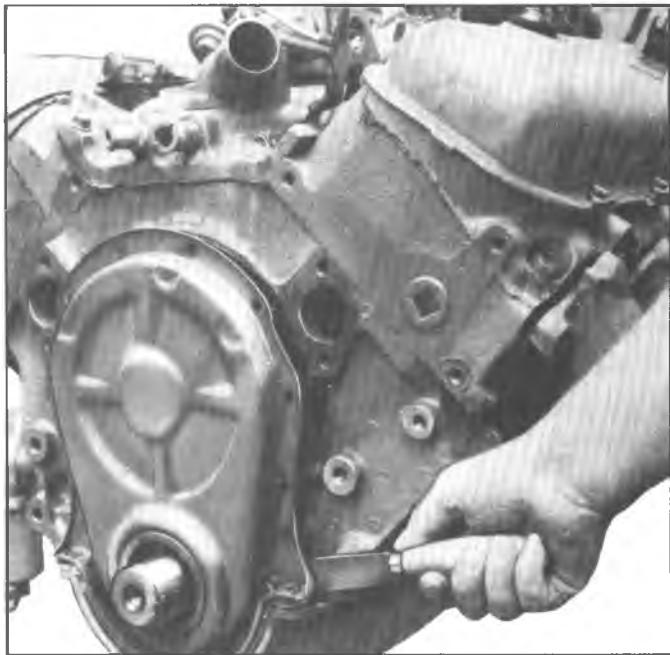

Fig. 18V—Cutting Tabs on Oil Pan Front Seal
5. Using a sharp knife or other suitable cutting tool, cut oil pan front seal flush with cylinder block at both sides of cover (fig. 18V).